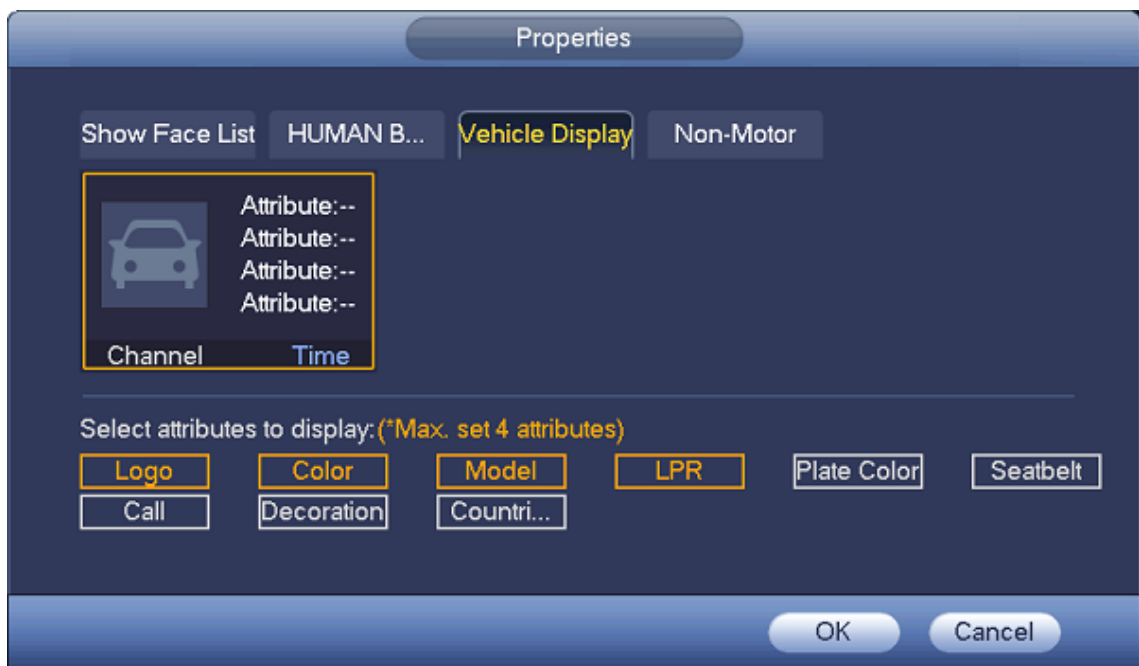

Figure 4-65
- Step 6 (Optional) Click Vehicle Display and select attributes to display, including vehicle logo, vehicle color, vehicle model, plate recognition, plate color, seatbelt, call, vehicle decorations and countries & regions. See Figure 4-65.